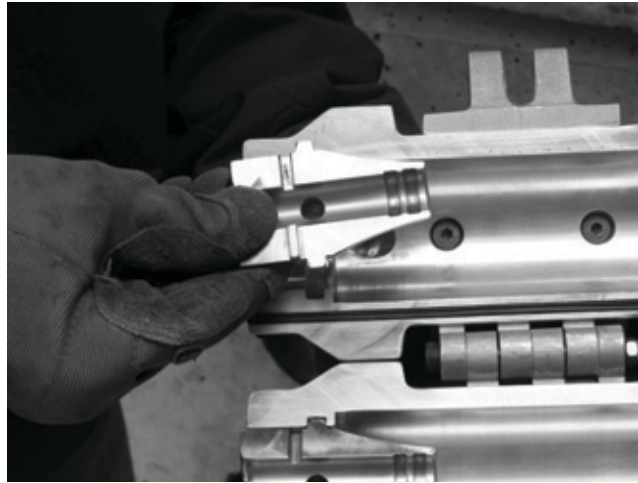

Figure 1 Remove Rope Venturi
2. Remove rope venturi if installed See Figure 1